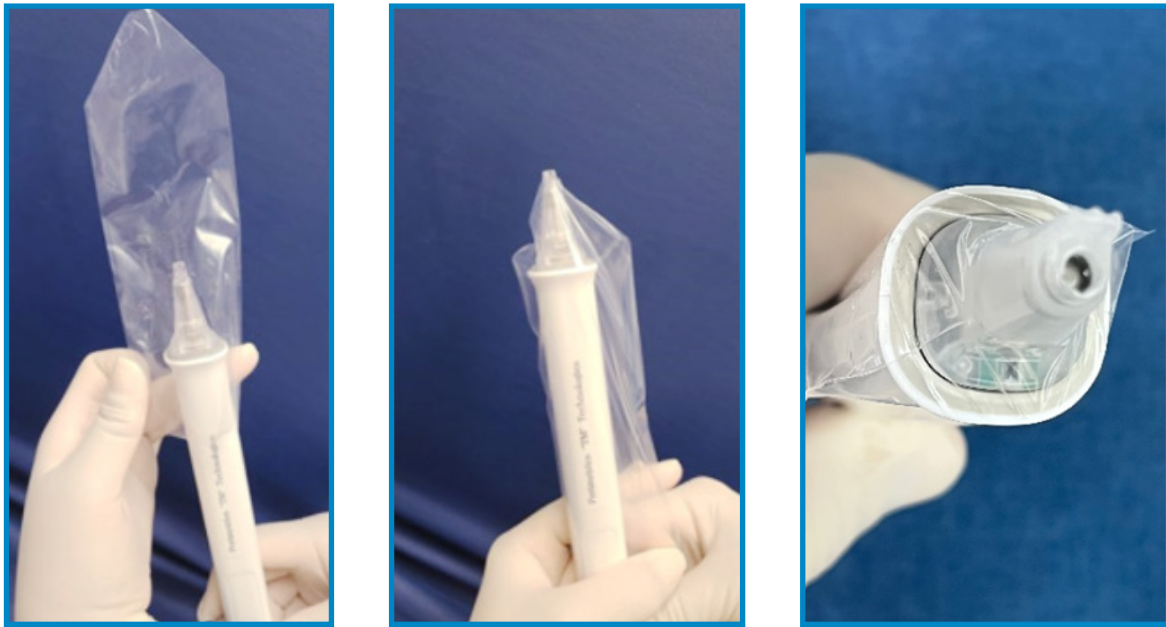

Figure 11: Placement of Barrier Sleeve over Handpiece with attached Tip
Step1: Trim a new barrier sleeve to allow the tip to extend through the barrier sleeve (*Figure 11*).
Step 2: Place the trimmed barrier sleeve over the handpiece with attached tip. Ensure the sleeve **does not cover the tip opening** / film membrane. (*Figure 11*).